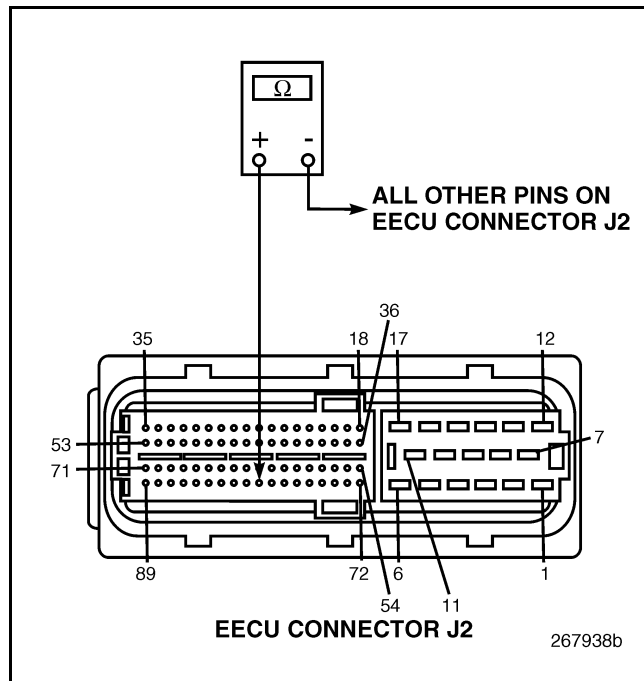

Figure 219
4. Check for continuity between EECU harness connector J2 pin 80 and all other pins on EECU connector J2 (see Figure 219).